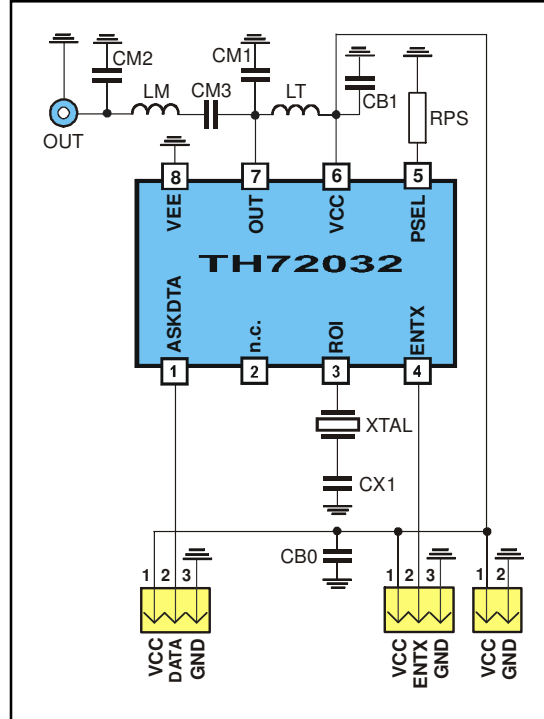

Fig. 17: Test circuit for ASK with 50 Ω matching network
typical values at $T_A = 23\text{ °C}$ and $V_{CC} = 3\text{ V}$; test circuit shown in Fig. 17, $f_c = 868.3\text{ MHz}$
- Data according to test circuit in Fig. 17 (868.3MHz)
6.1 Test circuit component list to Fig. 17